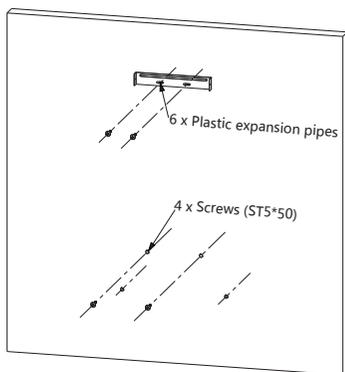

Fig.4
- Fix installation plate and screw two suspension screws (ST5\*50) into the plastic expansion pipes but keep 2mm outside , See Fig.4.